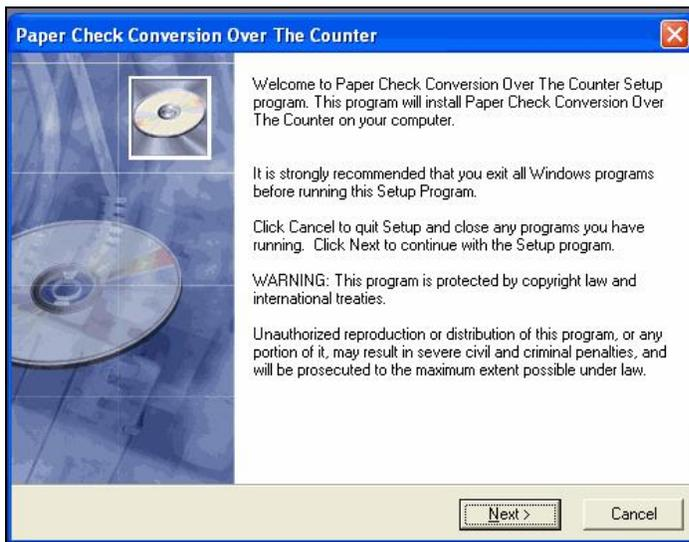

Figure 2.23
5. The system will reboot and when Windows is restarted, the following prompt will appear (Figure 2.23). Click **‘Next’**.